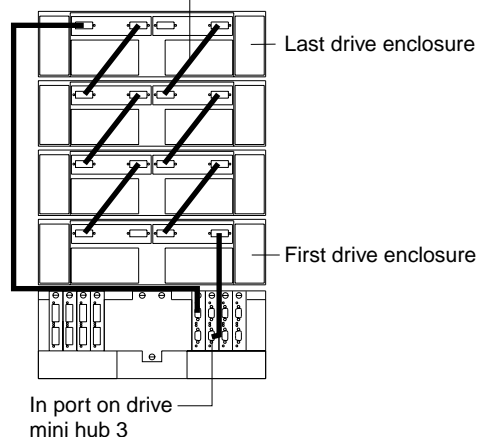

Figure 33. Connecting redundant drive loops to the FAStT700 Storage Server
2. Connect drive loop B to the FAStT700 Storage Server, as shown in Figure 33.